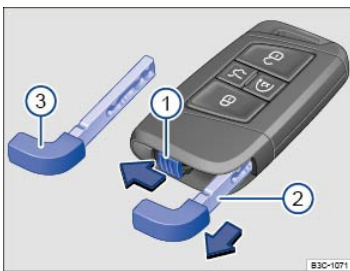

Fig. 52 Releasing the emergency key and removing it from the remote control vehicle key.
Key to ⇒ Fig. 52 :
- ① Emergency key release.
- ② Removing the emergency key.
- ③ Emergency key bit.
If your vehicle is equipped with the remote start feature, there is an emergency key ⇒ Fig. 52③ inside the remote control vehicle key fob.
To remove the emergency key: Move the sliding lock ⇒ Fig. 52① in the direction of the arrow. At the same time, push the emergency key out of the slot in the remote control vehicle key in the direction of the arrow ②.